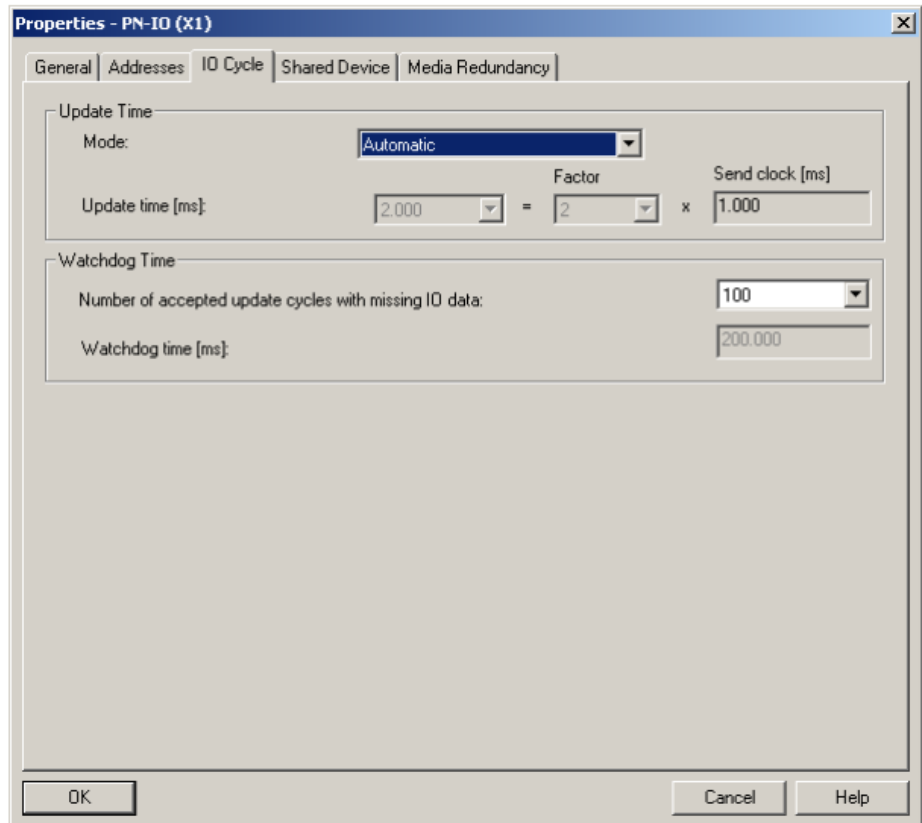

Figure 2-10 Dialog box: Properties - PN-IO (X1); IO Cycle tab
- In the “IO Cycle” tab, set the value for “Number of accepted update cycles with missing IO data” under “Watchdog Time” so that the value under ”Watchdog time (ms)” is greater than 200, see Figure 2-10.